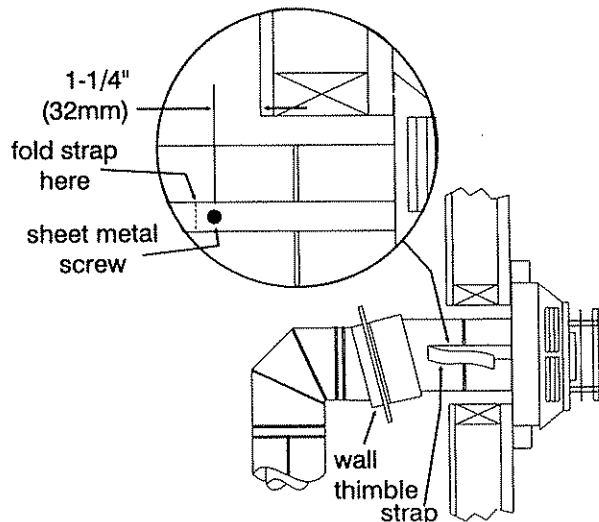

Fig. 6
- 8) Slide the appliance and vent assembly towards the wall carefully inserting the vent pipe into the vent cap assembly. It is important that the vent pipe extends into the vent cap sufficient distance so as to result in a minimum pipe overlap of 1-1/4 inches. Secure the connection between the vent pipe and the vent cap by attaching the two sheet metal strips extending from the vent cap assembly into the outer wall of the vent pipe. Use the two sheet metal screws provided to connect the strips to the pipe section. See Fig. 6.